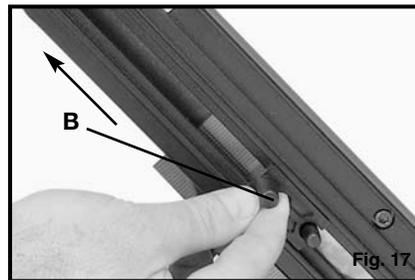

Fig. 17
4. Pull the follower (B) Fig. 17, all the way to the rear of the magazine and release. The follower will apply pressure to the strip of cleats to feed it into the driving mechanism.